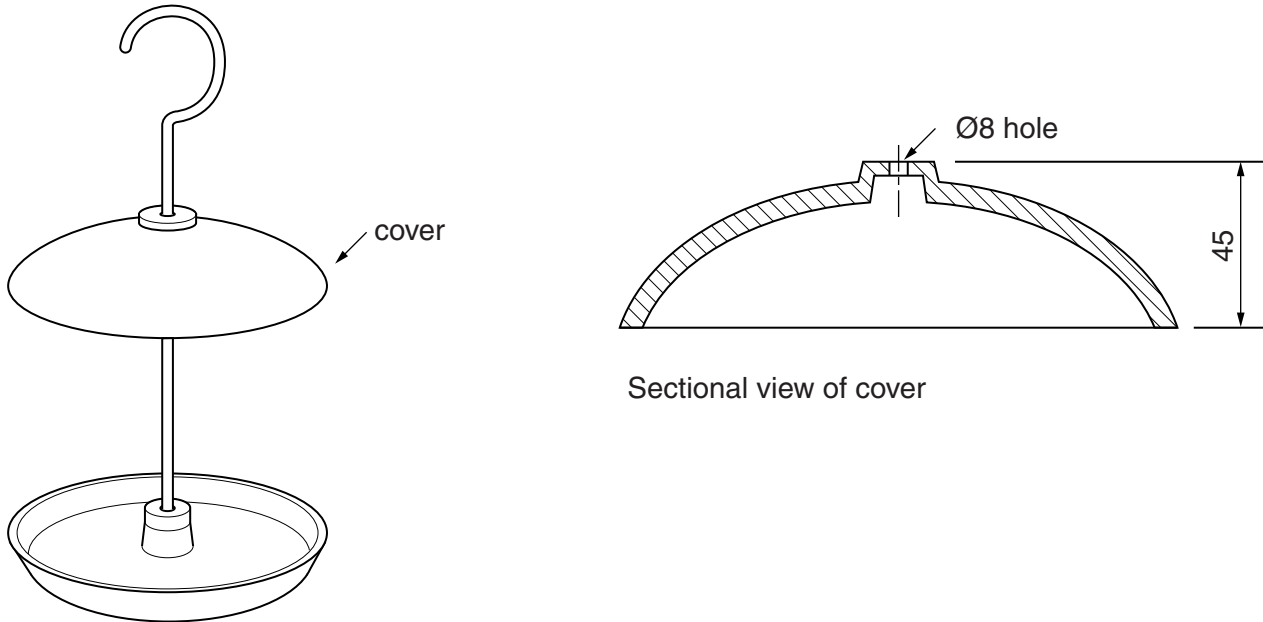

Fig. 1
1 Fig. 1 shows a garden bird feeder with details of the cover.
- (a) State a suitable material for a cover of the type shown in Fig. 1 and give **two** reasons for your choice. [3]